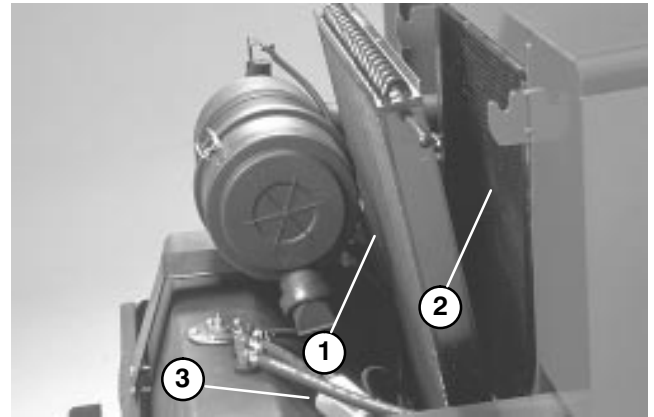

Figure 33
1. Clamp both fuel lines that connect to fuel filter (Fig. 33) so fuel cannot drain when lines are removed.